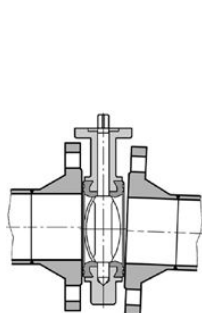
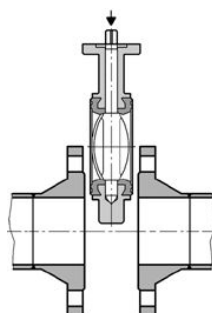
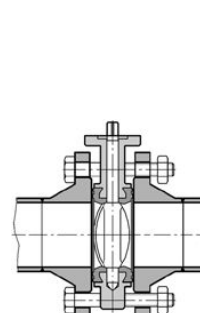
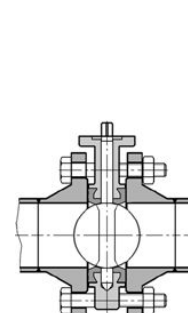

Figure 5
Figure 6
Figure 7
Figure 8
- Under no circumstances should the valve be installed between non-parallel flanges. The axes of the pipeline and the butterfly valve must be aligned. The disc of an eccentrically mounted butterfly valve can be damaged (See figure 5). It is also not allowed to weld the pipeline if the valve is mounted between the flanges. This could permanently damage the valve. The flanges should have sufficient opening so that the valve can easily be placed between the flanges. The disc should be slightly open (See figure 6). If the opening between flanges is too close the lining could be damaged. Insert the flange bolts while the disc is still a bit open and tighten the bolts by hand (See figure 7). If the bolts are tightened while the valve is closed, the liner will be incorrectly tensioned. This will increase the torque and the valve can leak. Open the butterfly valve now completely (See figure 8) and make sure the pipeline is aligned properly. Tighten the bolts evenly crosswise.